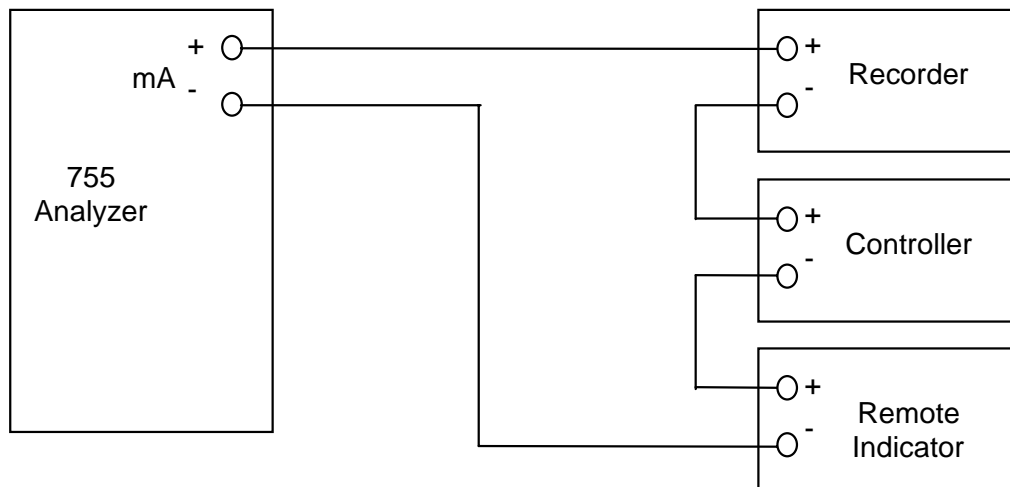

FIGURE 2-4. MODEL 755 CONNECTED TO DRIVE CURRENT OUTPUT-ACTIVATED OUTPUT DEVICES
5. Connect free end of output cable to input terminals of recorder or other current-actuated device, making sure that polarity is correct. If two or more current-actuated devices are to be used, they must be connected in series, see Figure 2-4. Do not exceed the maximum load resistance (see Section 1.2).